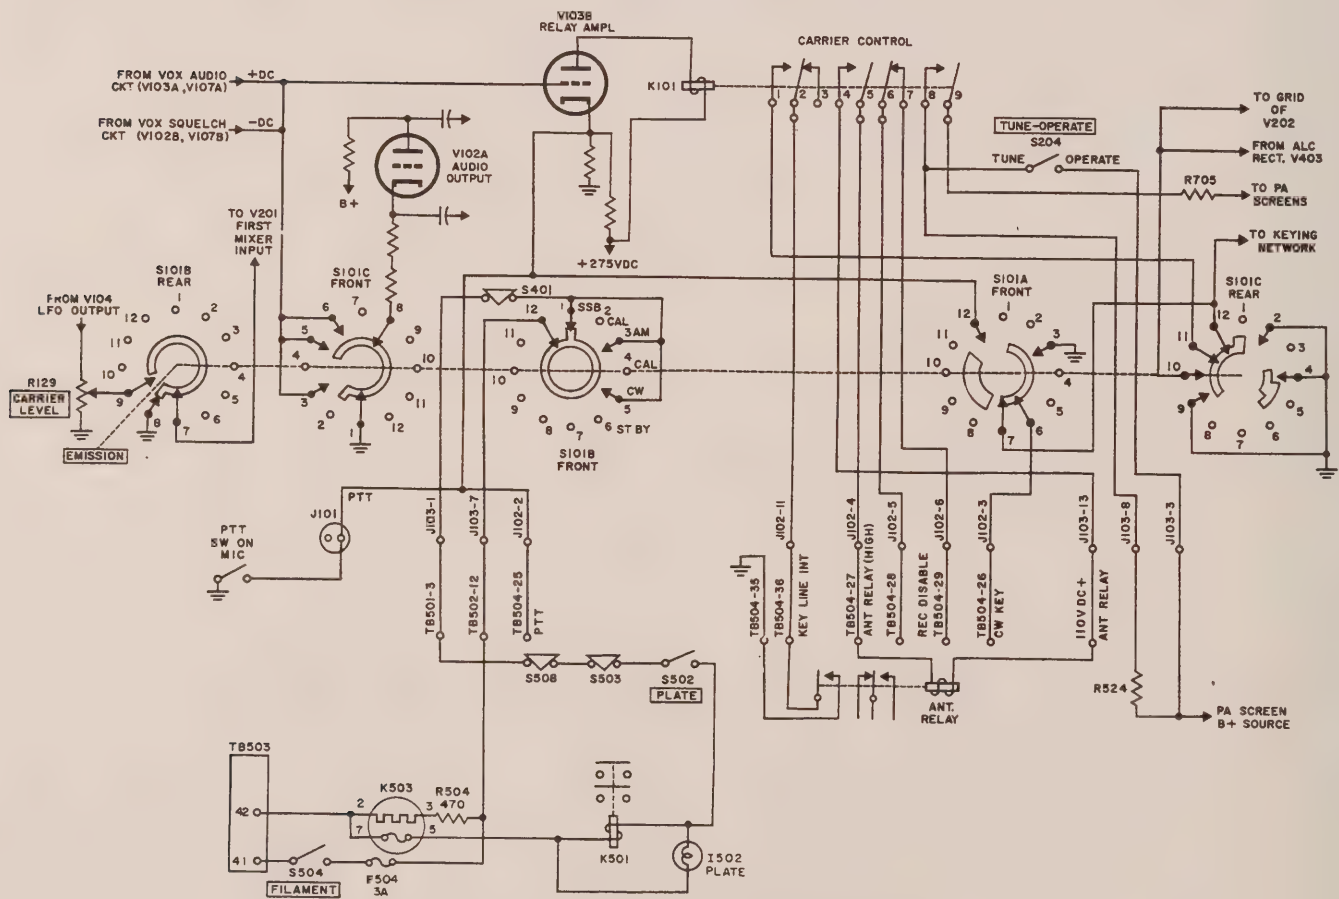

Figure 4-19. Control Circuits, Simplified Schematic Diagram
4.2.3.1. GENERAL. The carrier control circuits are shown in figure 4-19. All filaments and the entire low voltage supply are energized upon closing FILAMENT switch S504. Assuming that the contacts of time relay K503 are closed, the circuit to close plate contactor K501 is from S504 through S101B (front), S401, S508, S503, PLATE switch S502, the coil of plate contactor K501, K503 to TB503 terminal 42. Notice that EMISSION switch S101B (front) opens the circuit in CAL and STBY positions.
Refer to figure 4-19. The following control functions take place at the various positions of the EMISSION selector switch, S101.